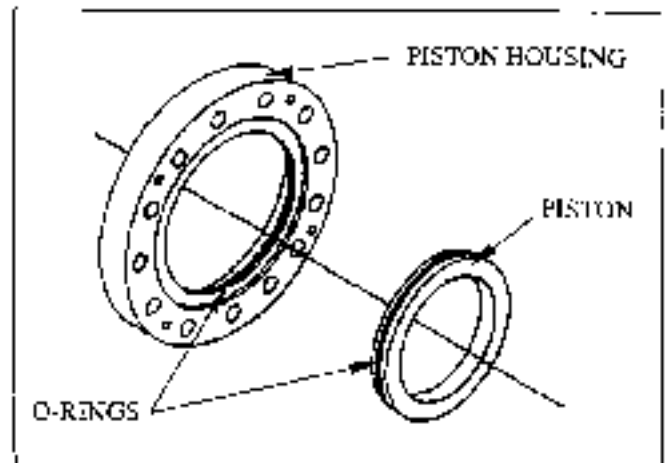

Figure 22
1. Tap the piston out of the outer piston housing. See Figure 22.
4. Coat the working surfaces with lubricant and insert the piston into the housing carefully. As the piston is edged past the "O" Ring in the housing, use a dull thin tool to seat the "O" Ring into the housing, being very careful not to shear the "O" Ring or back-up ring. Gently tap the piston into place. See Figure 22